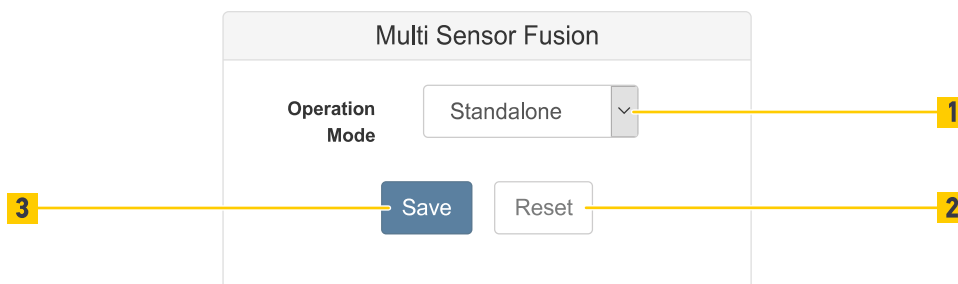

Fig. 91: Multi Sensor Fusion
- To define the kind of device select the operation mode (Fig. 91 /1) from the drop-down list.
- To go back to the last saved settings click the Reset button (Fig. 91 /2).
- To save all the settings in the device click the Save button (Fig. 91 /3).